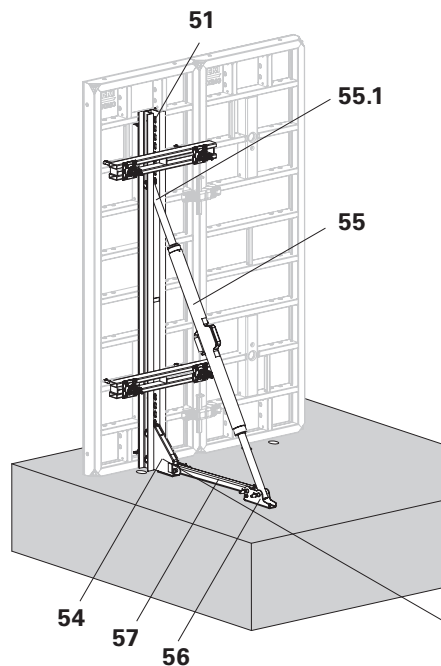

Fig. D1.01
3. Fix the Tension Strut SB-L (57) to the Anchor Bracket SB-L and Base Plate by means of Bolts \varnothing 20 and Cotter Pins.
4. Fix the Heavy-Duty Spindle SLS (55) to the Steel Waler SRZ 245 using Fitting Pins (55.1) and Cotter Pins; mount on Base Plate (56) with Bolts and Cotter Pins. (Fig. D1.01 + D1.02)
6. Position the Support (59) in the area of the Anchor Bracket, and fix the Brace Frame on the element: see D2 Connecting to the Systems.